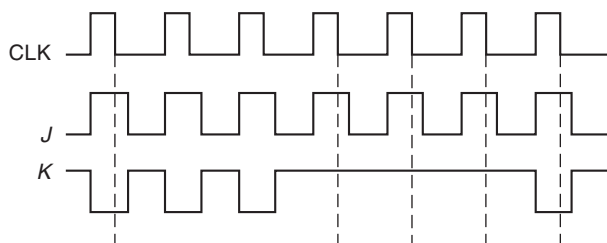

Fig. 12.67 Input Waveforms.
34. For a pulse-triggered, master-slave, J-K flip-flop with the inputs in Fig. 12.67, sketch the Q output waveform. Assume that Q is initially LOW.